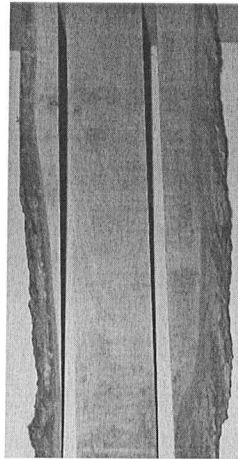

Figure 9.
- You now have a finished board with the excess waste cut off of each side as can be seen in figure 9.